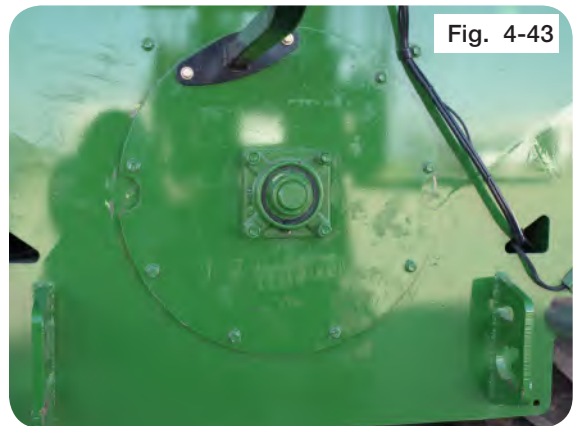

Fig. 4-43
24. Torque hardware for the rear auger cover and SMV bracket back onto the cart. (Figure 4-43)